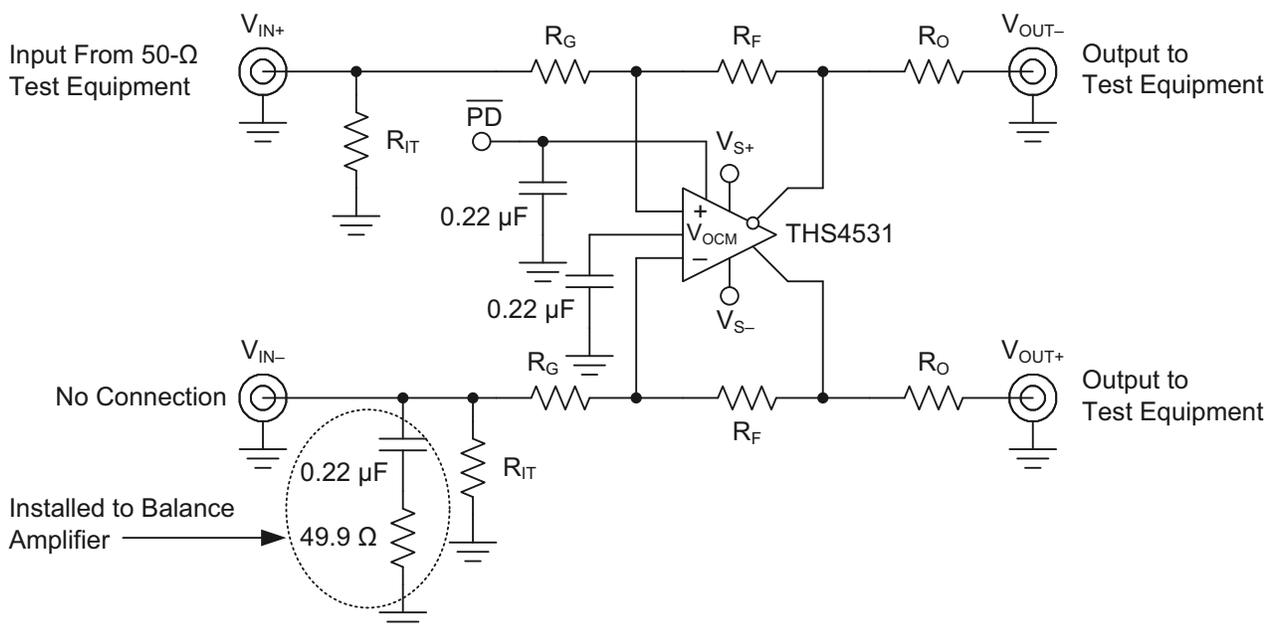
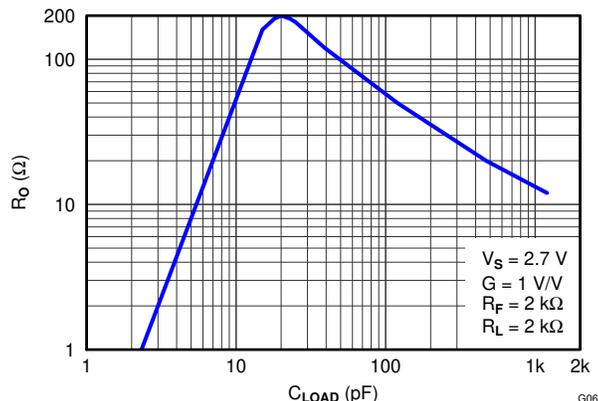
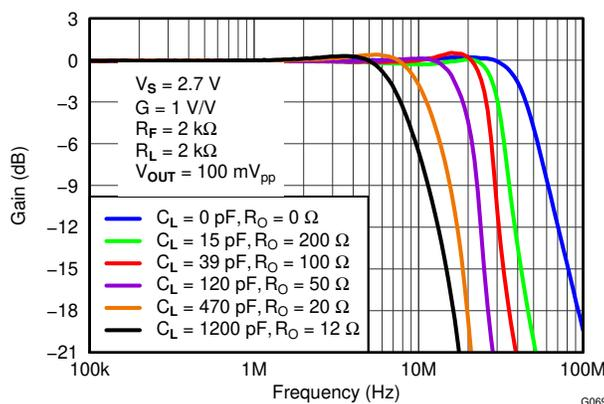

Figure 69. Slew Rate, Transient Response, Settling Time,  $Z_O$ , Overdrive Recovery,  $V_{OUT}$  Swing, and Turn-On and Trun-Off Test Circuit
Figure 78. Recommended Series Output Resistor vs Capacitive Load for Flat Frequency Response
Figure 79. Frequency Response for Various  $R_O$  and  $C_L$  Values
The circuit shown in Figure 69 is used to measure slew rate, transient response, settling time, overdrive recovery, and output voltage swing. Turn-on and turn-off times are measured with 50  $\Omega$  input termination on the  $\overline{PD}$  input, by replacing the 0.22  $\mu$ F capacitor with 49.9  $\Omega$  resistor.
Inserting  $R_O$  will compensate the phase shift and restore the phase margin, but it will also limit bandwidth. The circuit shown in Figure 69 is used to test for best  $R_O$  versus capacitive loads,  $C_L$ , with a capacitance placed differential across the  $V_{OUT+}$  and  $V_{OUT-}$  along with 2 k $\Omega$  load resistor, and the output is measure with a differential probe. Figure 78 shows the optimum values of  $R_O$  versus capacitive loads,  $C_L$ , and Figure 79 shows the frequency response with various values. Performance is the same on both 2.7 V and 5 V supply.
4. A series output resistor is recommended to be placed as near to the output pin as possible. See Figure 78 Recommended Series Output Resistor vs. Capacitive Load for recommended values given expected capacitive load of design.